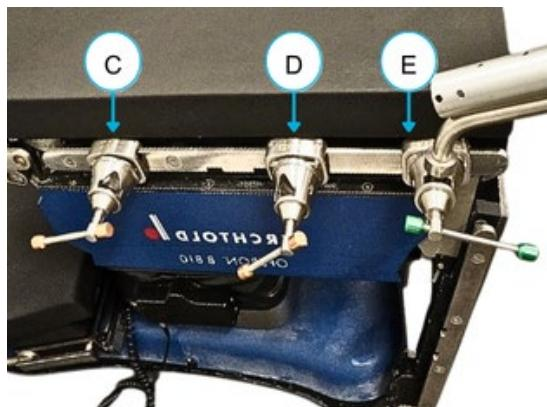
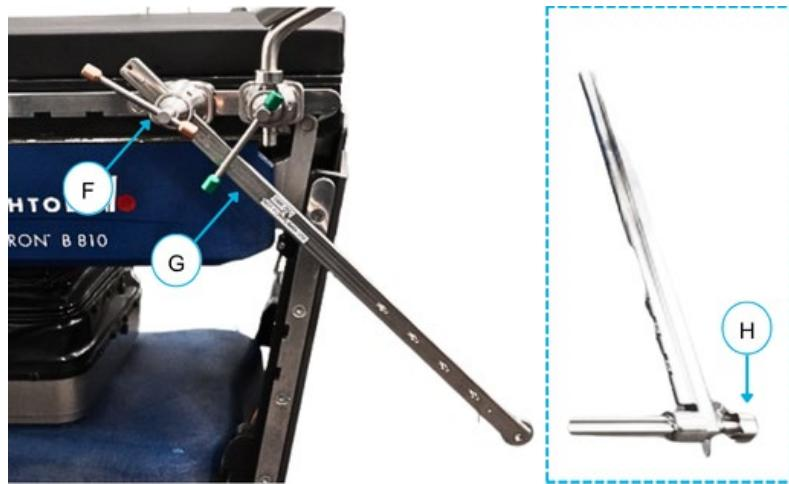

Figure 10-13: Clark Clamp Positions
Figure 10-14: Vertical (long) Stabilizer Mounts Attachment
- Attach the First Clamp (**D**) next to the stirrup clamp (**E**) (**Figure 10-13**)
4. Place one Vertical (long) Stabilizer Mount (**G**) into the Clark Clamp (**F**) (**Figure 10-14**) next to the stirrup clamp (**Figure 10-13**).